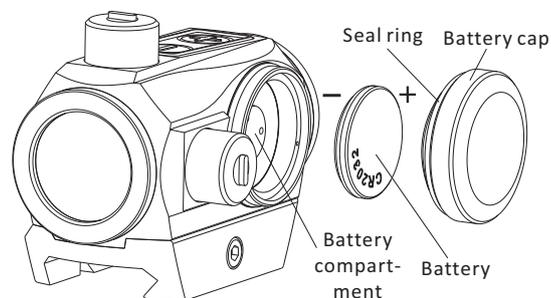

Fig 2 Battery Installation
3. Please see the Fig 2 for battery installation and Replacement:
- 2) Insert the battery into the battery compartment with the correct marked polarities "+" "-", See Fig2.